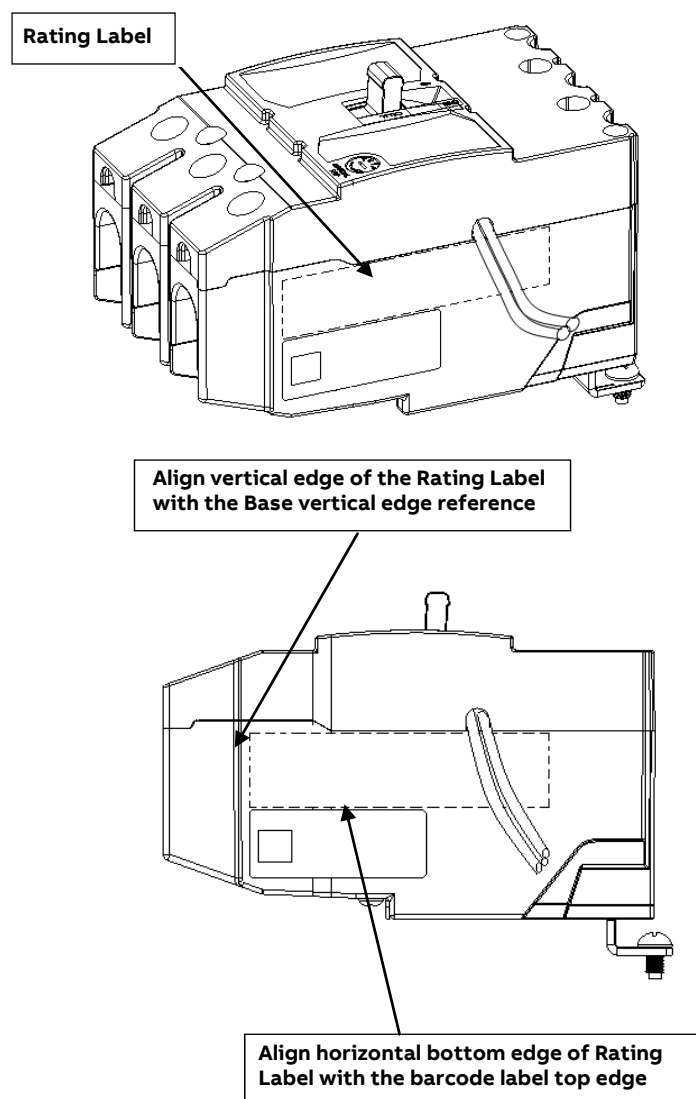

Figure 12.
1. Paste the Rating Label on the Base at the location shown in the Figure 12.